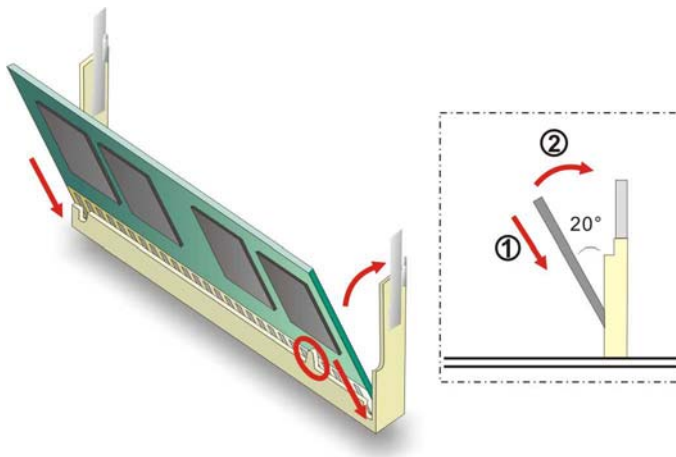

Figure 5-1: SO-DIMM Installation
To install a SO-DIMM into a SO-DIMM socket, please follow the steps below and refer to Figure 5-1.
- Step 3: Insert the SO-DIMM.** Push the SO-DIMM chip into the socket at an angle. (See Figure 5-1)
- Step 4: Open the SO-DIMM socket arms.** Gently pull the arms of the SO-DIMM socket out and push the rear of the SO-DIMM down. (See Figure 5-1)